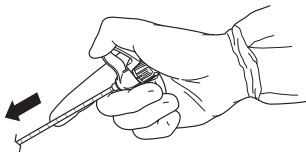

Figure 1 – Insert the Access Cannula/ Stylet Assembly
2. Under fluoroscopic guidance, insert the access cannula/stylet assembly into the surgical site (figure 1).